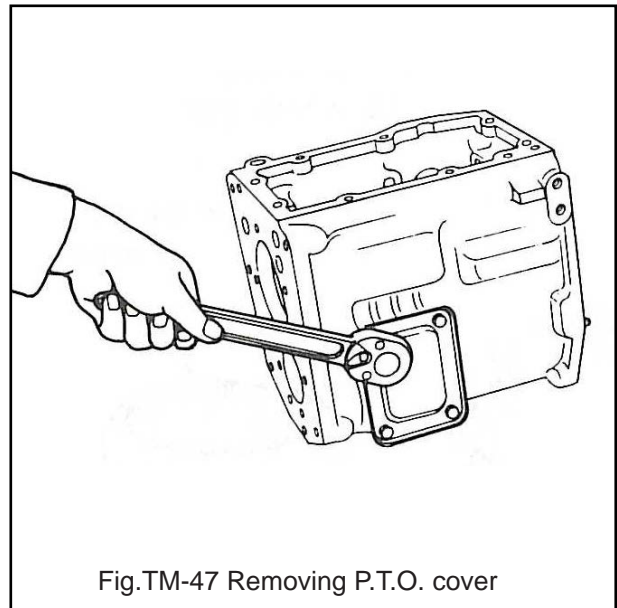

Fig.TM-47 Removing P.T.O. cover
4.Remove four power-take-out cover securing bolts, and remove power-take-out cover. See Figure TM-47.
2.Remove four power-take-out cover securing bolts, and remove power-take-out cover. See Figure TM-47.